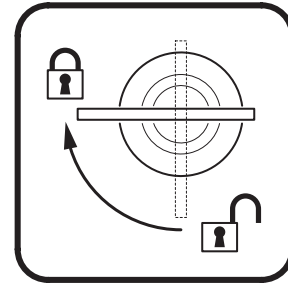

Figure 7: Locking 1/4-turn fasteners
- Align a clamp with 2 mounting points in the base. See Figure 7. Insert the fasteners into the base and turn both levers a full 1/4-turn clockwise to lock. Install the second clamp.